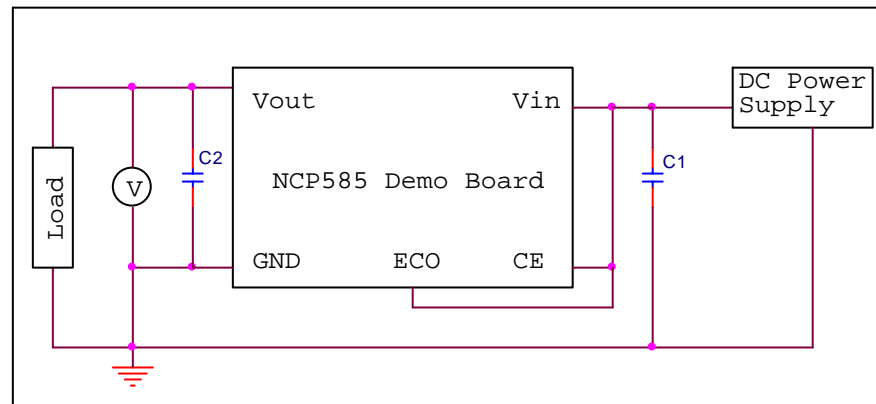

Figure 1: NCP585 Test Setup
- 1. Connect the demo board as shown in Figure 1.**